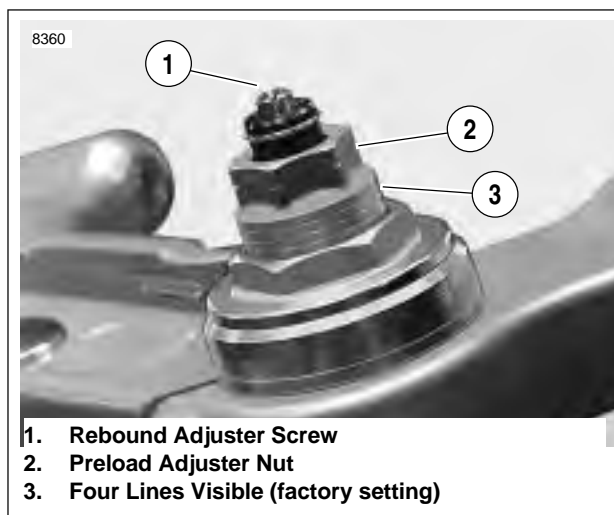

Figure 1-32. Front Fork Preload And Rebound Adjuster
1. See Table 1-10. Check number of lines (3) to be showing for your load condition.
2. See Figure 1-32. Adjust preload by turning the adjuster nut (2) with a wrench.
1. See Figure 1-32. Using a screwdriver, turn the slotted dial (1) clockwise until it stops. This is the maximum rebound damping setting.